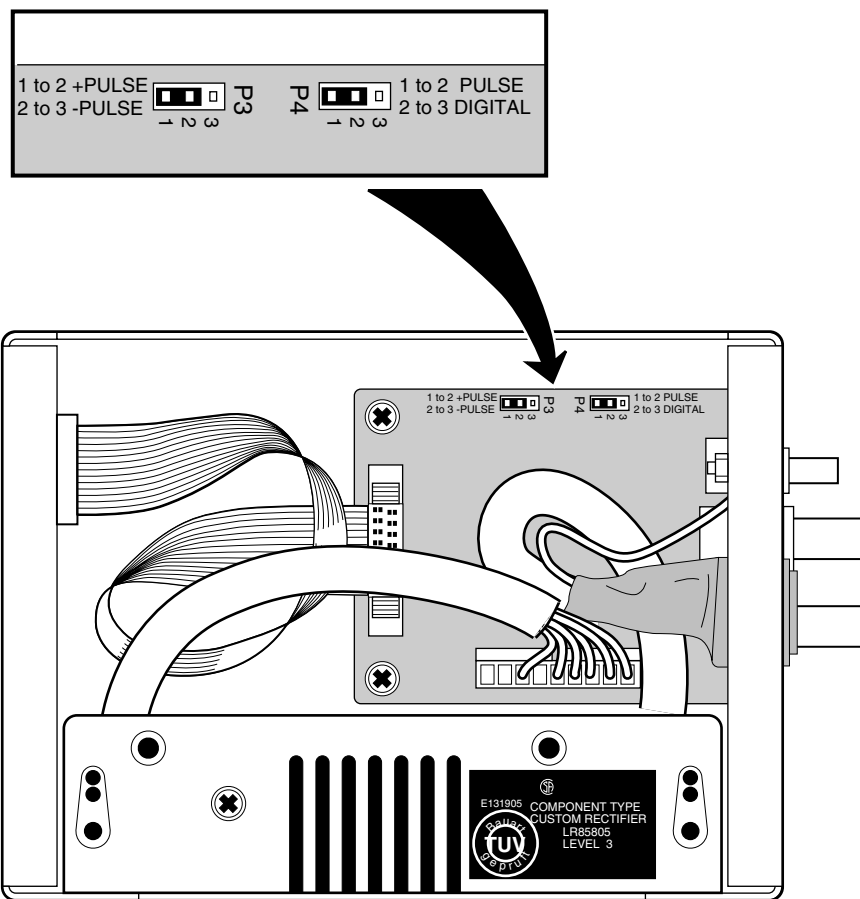

Figure 2-11. 59553A Combined Mode Jumper Locations
- 1 If you need to set the *rising edge* of the 1 PPS output to correspond with on-time edge (system output is a positive pulse), place jumper P3 in its pins 1,2 default position as shown in Figure 2-11.
- 2 Place jumper P4 in the pins 1,2 position to select two-signal transmission as shown in Figure 2-11.